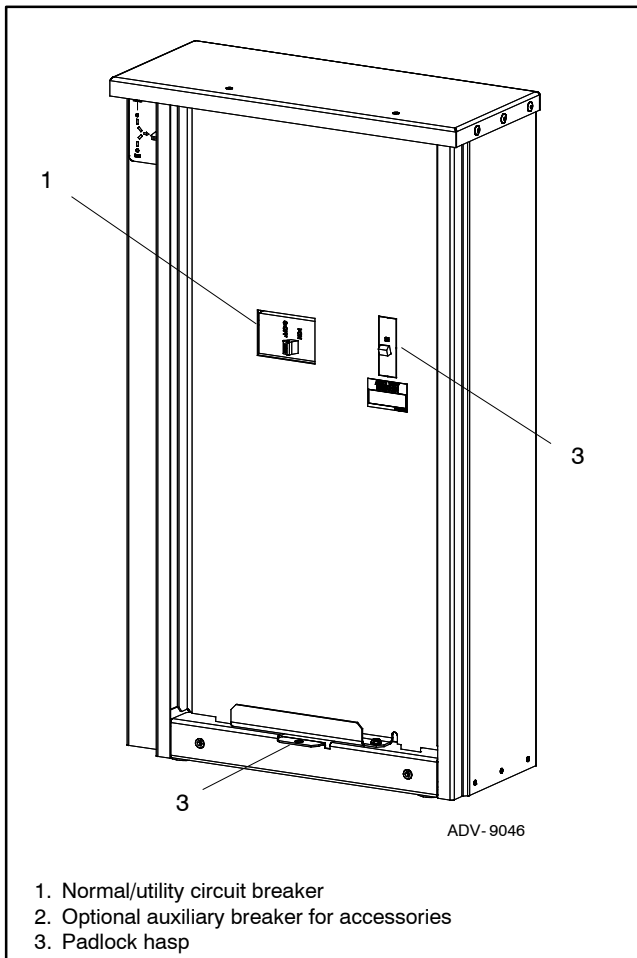

Figure 4-1 Service Entrance Model
4. To lock out the transfer switch, replace the outer door and attach a padlock to the hasp. See Figure 4-1 for the location of the hasp.